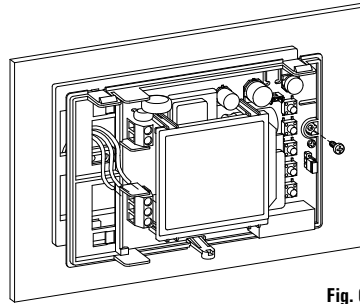
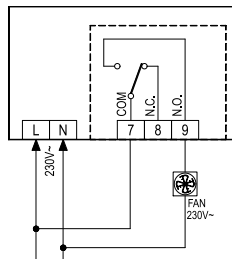

Fig. 6
Fig. 7
- 6 - Connect the controller base to the wall plate (pass the wires through the rectangular openings). Align the base holes with the special wall plate teeth, then press the base to the left until the plate's plastic teeth click (Fig. 6).
- 7 Make the electrical connections by passing the wires through the rectangular opening of the wall plate (Fig. 6) according to the connection diagram of Fig. 7.